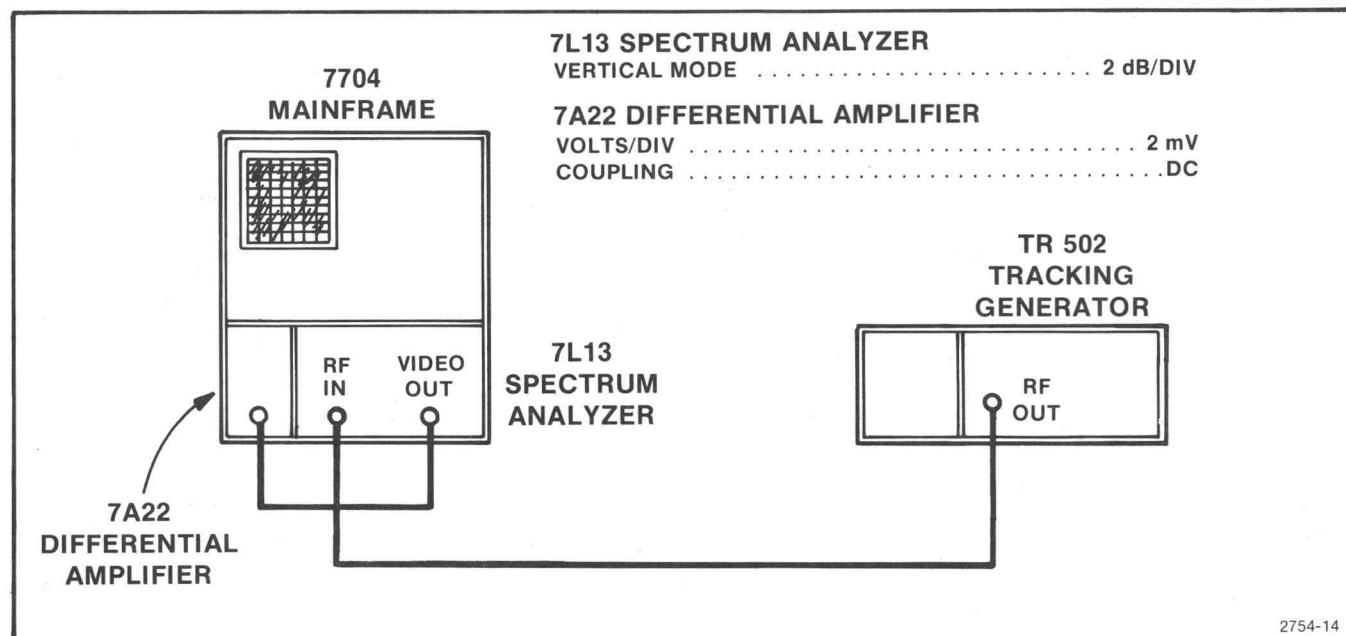

Fig. 4-3. Setting up 0.2 dB Reference Flatness.
a. Connect the test equipment as shown in Fig. 4-3. Make the appropriate connections between the tracking generator and the spectrum analyzer (1st LO, 2nd LO, and Track Gen (Logic)).